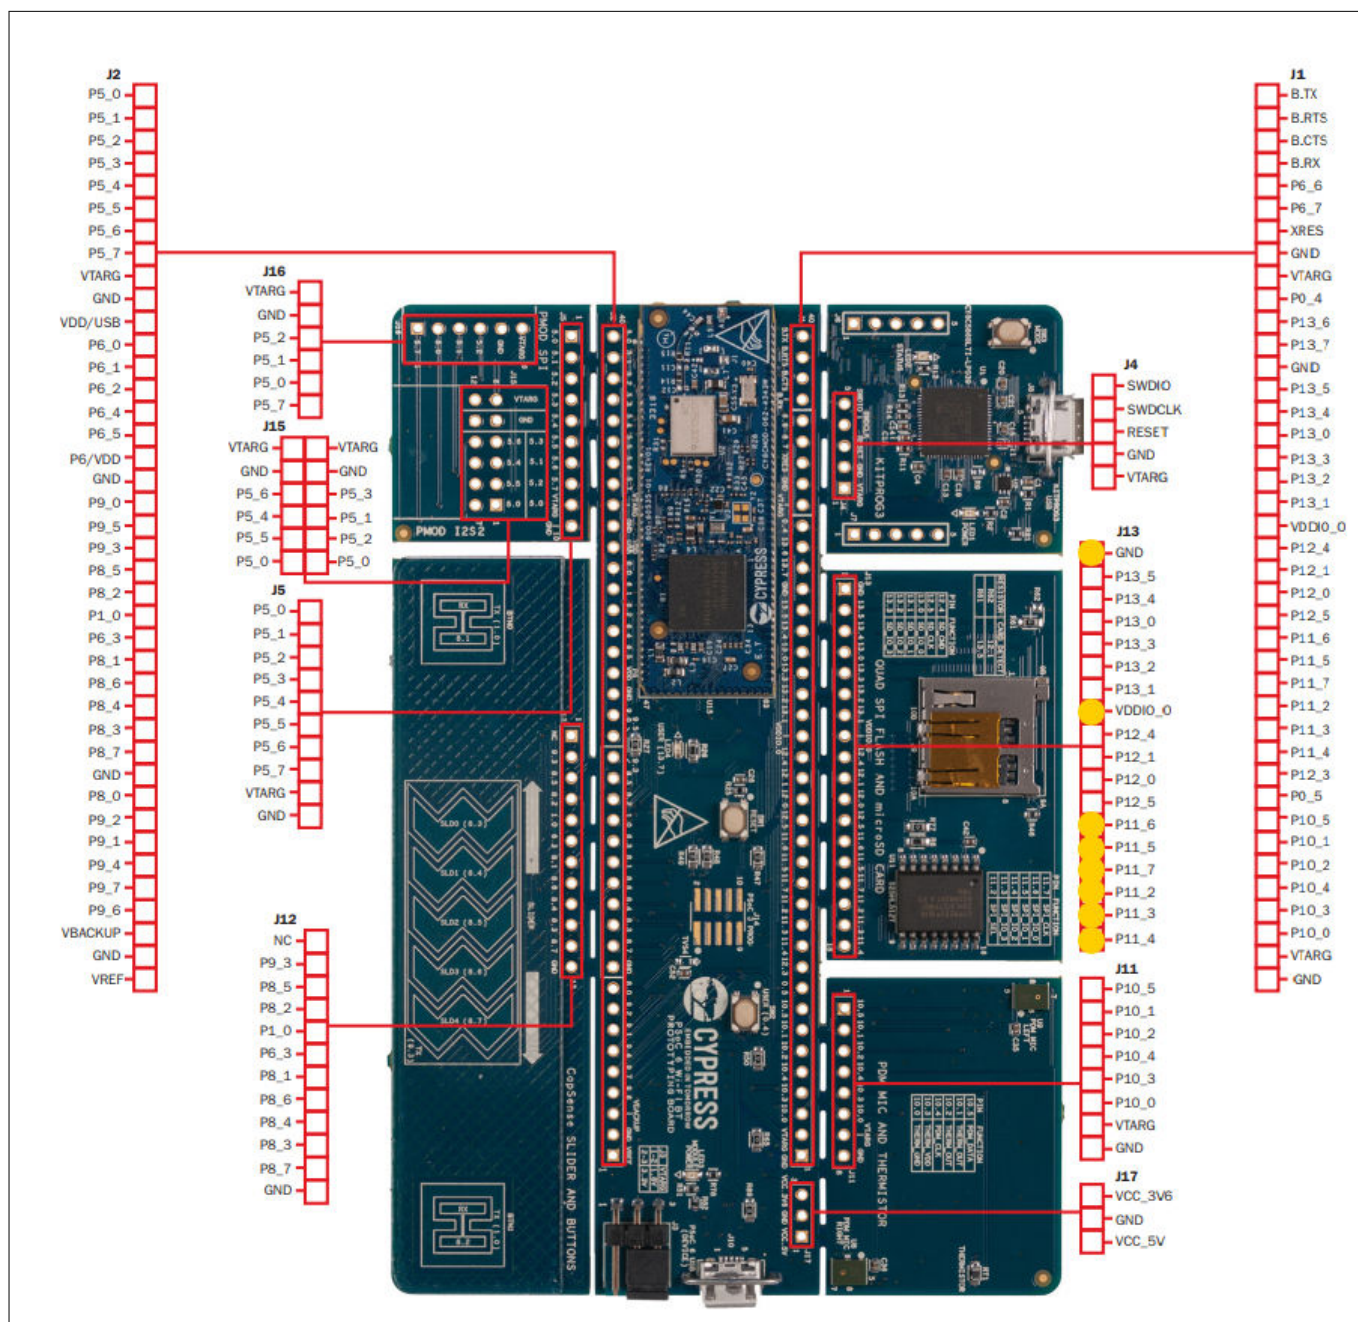

Figure 3 Board pinout
3. Solder the pin headers to GND, VDDIO, pins 11.6, 11.5, 11.7, 11.2, 11.3, and 11.4 pin holes. See Table 1 and Figure 3